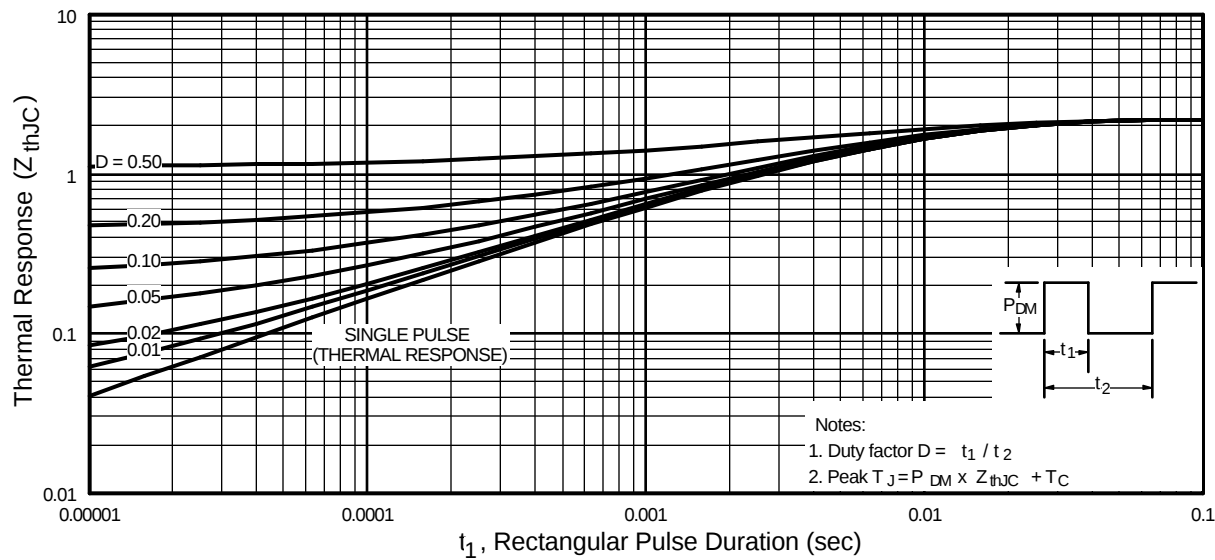

Fig 11. Maximum Effective Transient Thermal Impedance, Junction-to-Case
- ① Repetitive rating; pulse width limited by max. junction temperature. (See fig. 11)
② $V_{DD} = 25V$, starting $T_J = 25^\circ\text{C}$, $L = 610\mu H$